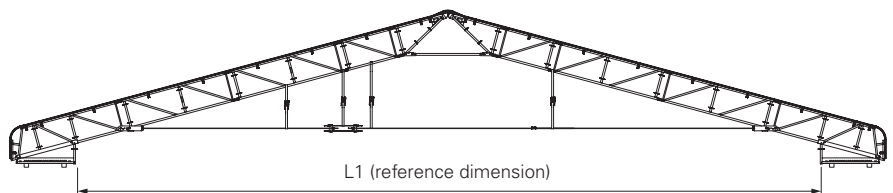

Fig. A7.06
- Check reference dimension L1 and adjust if necessary. (Fig. A7.06)